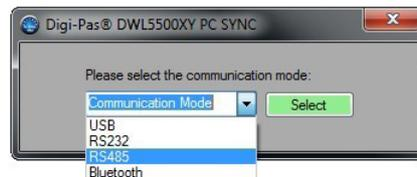

Figure 22. Select mode from the drop down menu
1. Assuming steps stated in 3.2 Configuration of Sensor Module(s) with Control Box and 4.1 Installation of the DWL5x00XY PC Sync Software have been done in this stage. Open PC SYNC software and select the desired mode from the drop down menu as shown in Figure 22. In this example, RS485 is selected.